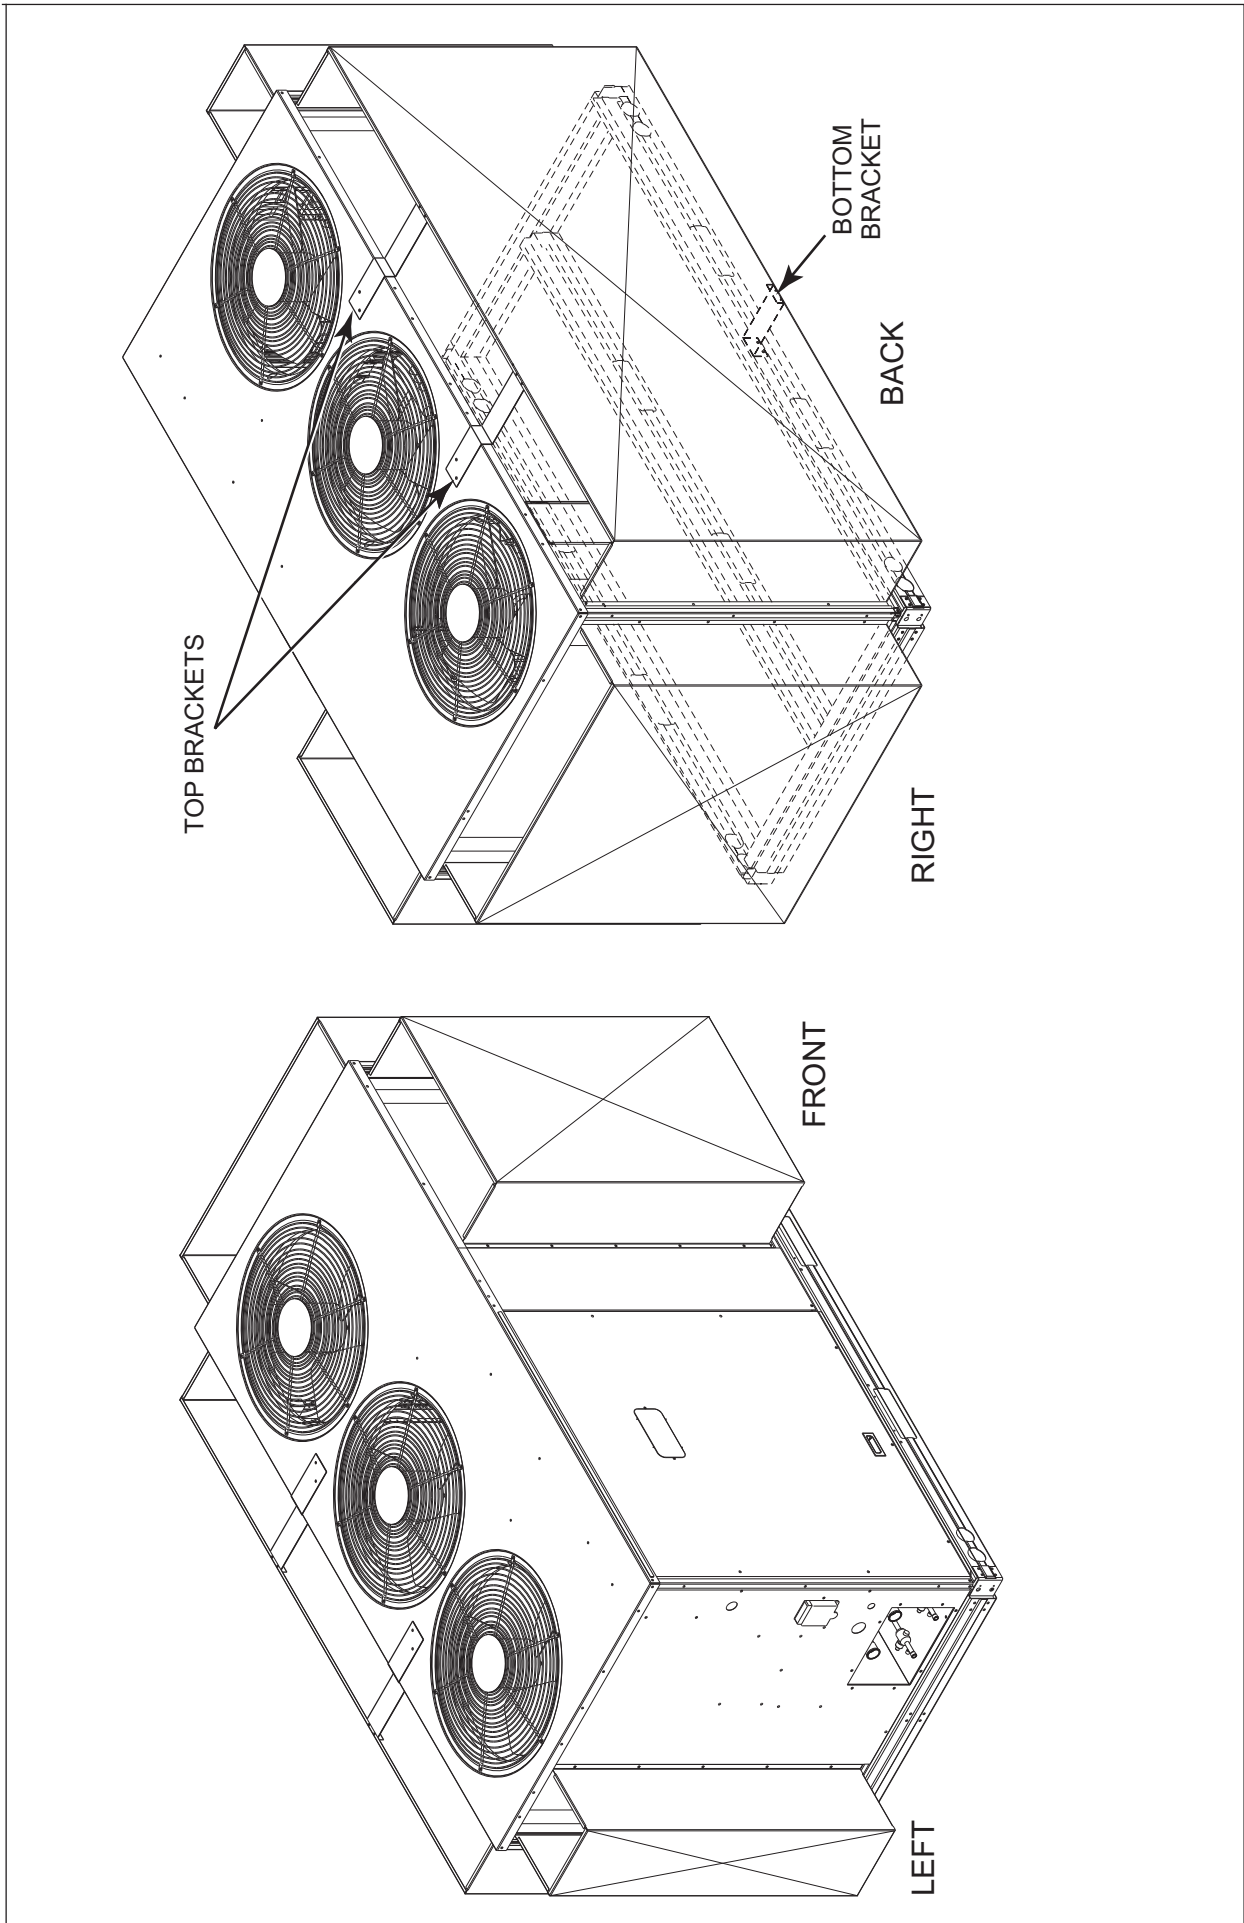

Fig. 53 - Wind Baffle Installation — 15 Ton Units
- Install the wind baffles as show in Fig. 53, for 15 ton units and Fig. 54, for 20 ton units .